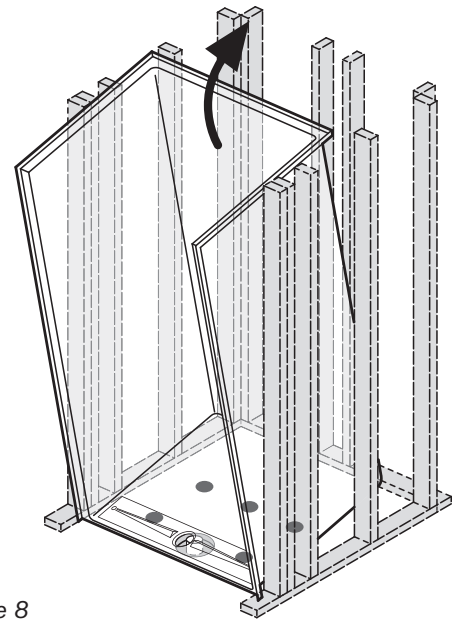

Figure 8
- 14 Tip shower up into position; do not drag or slide it. Make sure front aligns with line drawn in Step 3. (Figure 8)